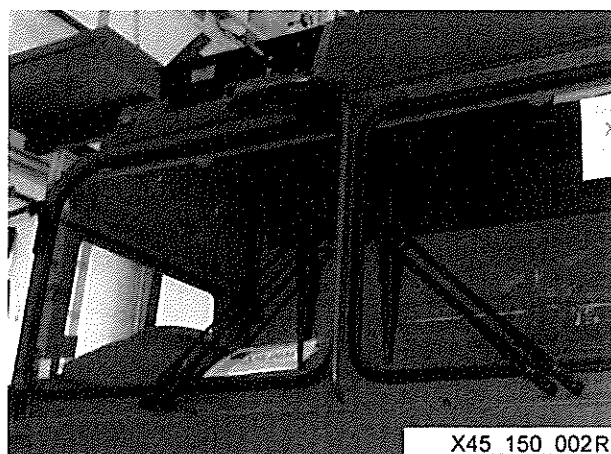

Fig 9 Front mirror position
- 20 Refer to Fig 9. The front mirror is in a set position above the windscreen, it cannot be adjusted.